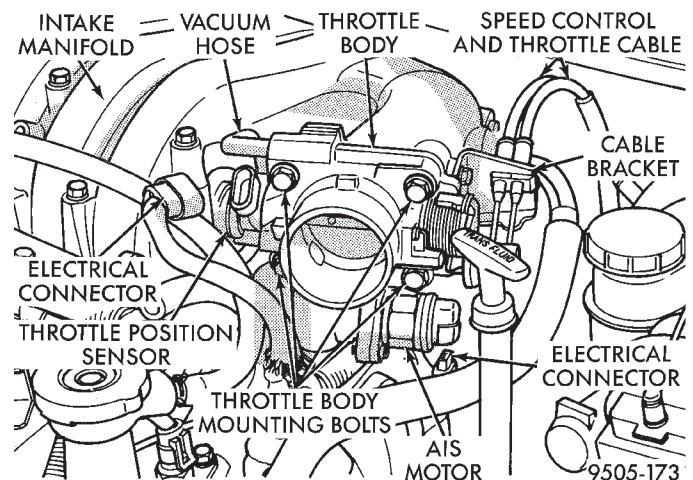

Fig. 68 Throttle Body Attachment To Intake Manifold
(4) Remove the throttle cable and if equipped the speed control cable from the throttle body (Fig. 68). Remove the vacuum hose (Fig. 68) from the throttle body. Remove the wiring harness connectors from AIS motor and the Throttle Position Sensor (Fig. 68) on the throttle body. Then, remove the 4 bolts (Fig. 68) attaching the throttle body to the intake manifold and remove it from intake manifold.
(5) Without removing cables from bracket, remove the throttle and speed control cable mounting bracket (Fig. 68) from the intake manifold.
- (14) Install the throttle body and a **NEW** gasket on the intake manifold. Install the 4 throttle body attaching bolts (Fig. 68) and tighten to a torque of 22 N·m (200 in. lbs.).
- (15) Install the vacuum hose (Fig. 68) on the throttle body. Install the wiring harness connectors on the
AIS motor and the Throttle Position Sensor (Fig. 68) located on the throttle body.